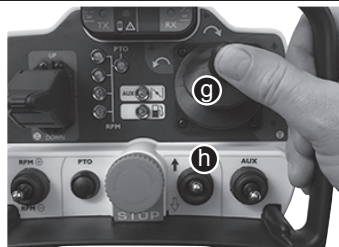

Fig 12
5.4 HOW TO DRIVE (fig.12)
In case it is necessary to work in a A-A path, it is provide a "REVERSING SWITCH" Fig 12(h) which make easier to drive as the machine will follow the Joystick direction. (see Fig 14 the drive direction with the 2 positions of the switch (h)).